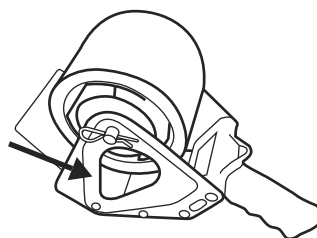

Figure 7
7. Replace clip. (See Figure 7)